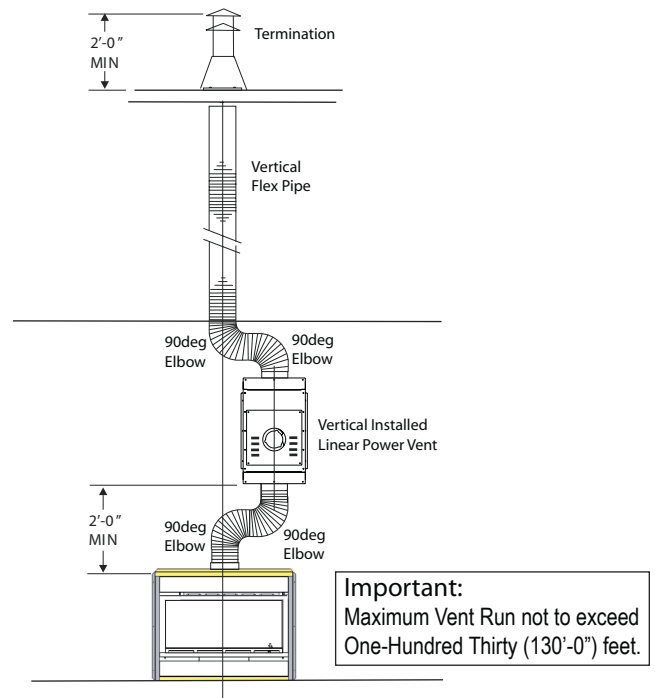

Figure 4a. Vertical Vent for the Linear Power Vent
1. The linear power vent can be installed to existing stud construction or directly to cement wall or roof. The LDVPV must maintain the clearance to combustibles shown in **Figure 4a**. The required service access panel must be framed at 18" X 18". To enclose the service access panel, (at less than 1") a minimum 30% free air must be supplied at all times.